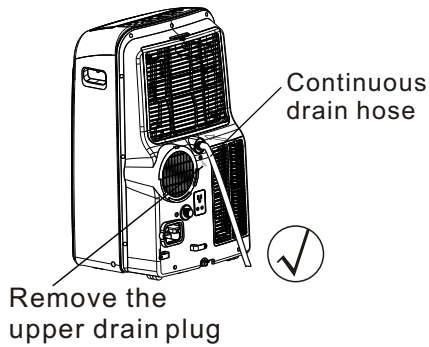

Fig.20a
- During dehumidifying modes, remove the upper drain plug from the back of the unit, install the drain connector(5/8" universal female mender) with 3/4" hose(locally purchased). For the models without drain connector, just attach the drain hose to the hole. Place the open end of the hose directly over the drain area in your basement floor. Please refer to Fig.20a.
NOTE: Make sure the hose is secure so there are no leaks. Direct the hose toward the drain, making sure that there are no kinks that will stop the water flowing. Place the end of the hose into the drain and make sure the end of the hose is down to let the water flow smoothly.(See Fig.20a,20b,21a). Do never let it up.(See Fig.21b).